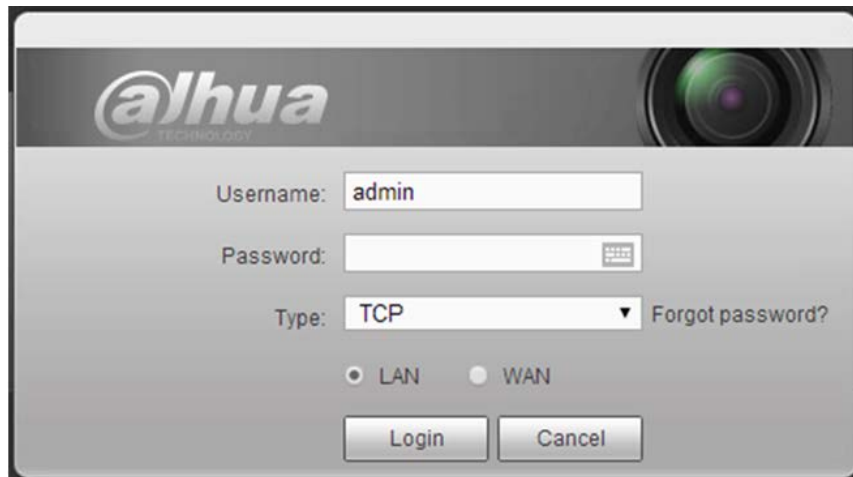

Figure 4-4
Step 1 The login interface is displayed. See Figure 4-4.
Step 1 Go to the device login interface. See Figure 4-4.